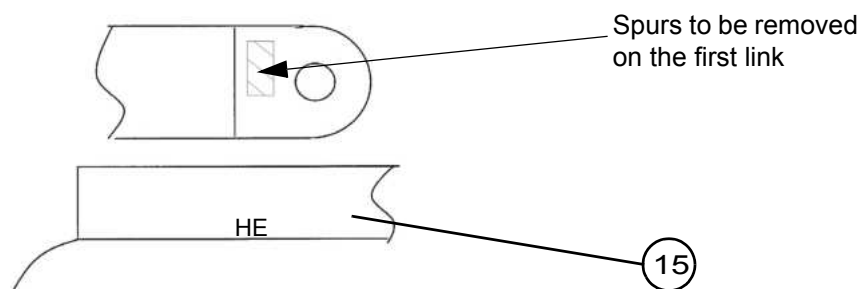

Figure 7
Fasten the first link of the chain inside the head element (15); remove the upper spur on each side before assembly (see Figure 7).